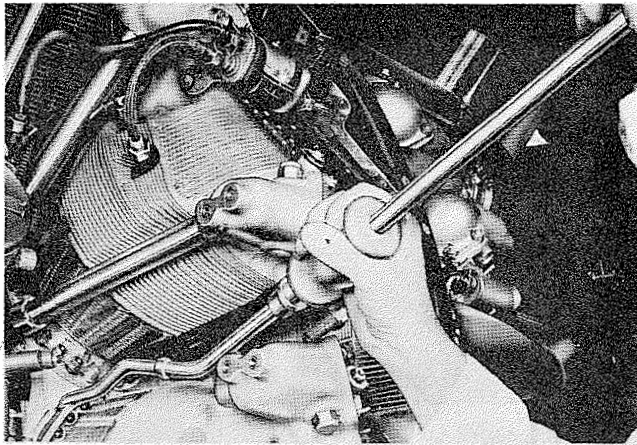

Figure 7-75. Installing Cylinder Hold-Down Cap Screw Lock Plate
b. Position the tool over cap screws No. 1 through 5 and force the plate into position, using the impact weight on the tool. See figure 7-75.